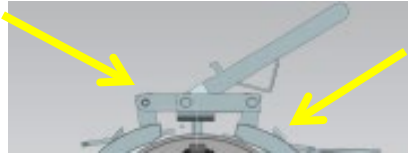

Figure 15: Clevis Pin
- I. Remove Clamp Ring assembly from barrel collar by unbolting the Clevis Pin from the clamp and removing both stop tabs, see Figure 15.